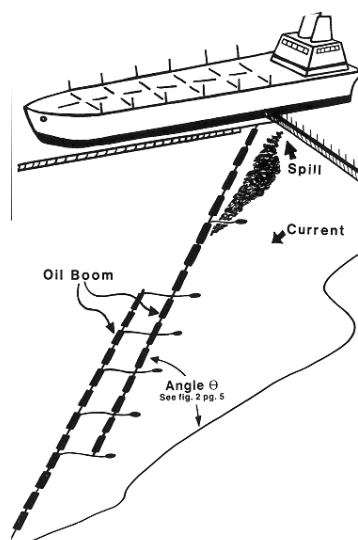

FIGURE 1-8 DOUBLE BOOMING
2. The distance between the two booms should be between 4' (1.22m) and 6' (1.83m). If proper planning of anchor points on the booms is made in advance, tether lines can be readily used to attach the second boom to the first eliminating much difficulty in anchoring. Short tether lines attached between the booms at each of the anchor points will keep boom spacing constant. See Figure 1-8.